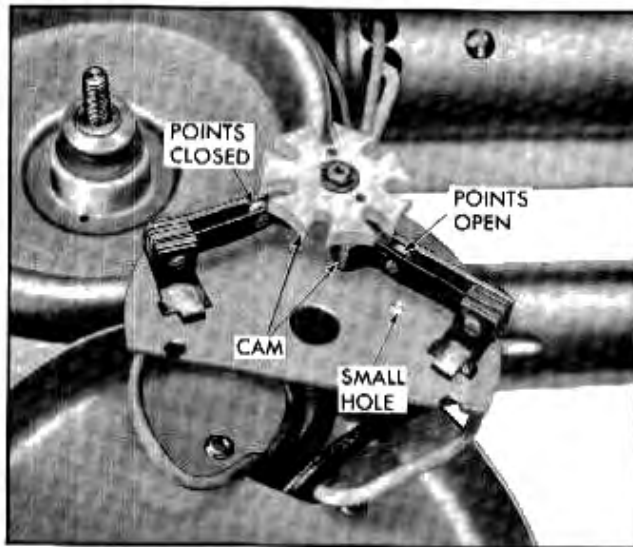

Fig. 14-8 Proper Position of Star Wheel Before Assembly
19. Check nylon star wheel on switch to see that it is positioned so the cam has opened points nearest small hole in switch base (Fig. 14-8).